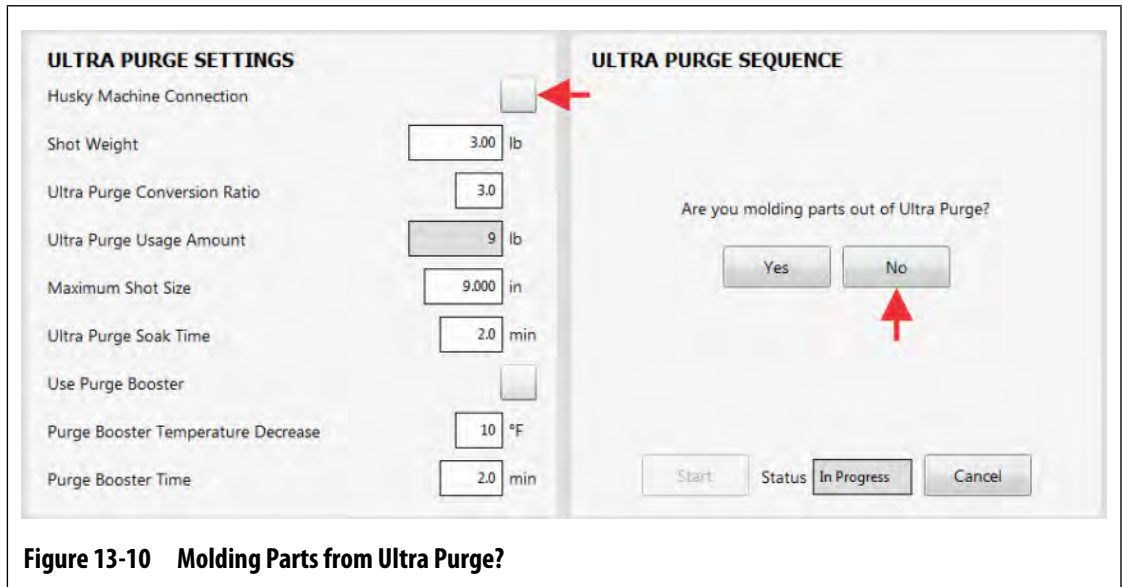

Figure 13-10 Molding Parts from Ultra Purge?
11. Make sure that the Husky Machine Connection checkbox is not checked (refer to Figure 13-10).